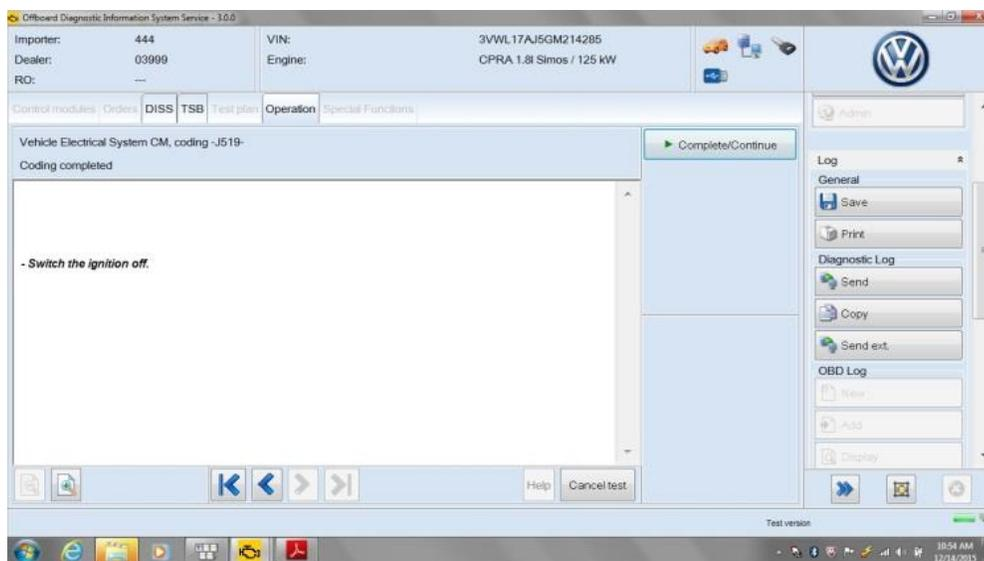

Figure 10
- Next switch ignition off and depress Complete/continue. (Figure 10)